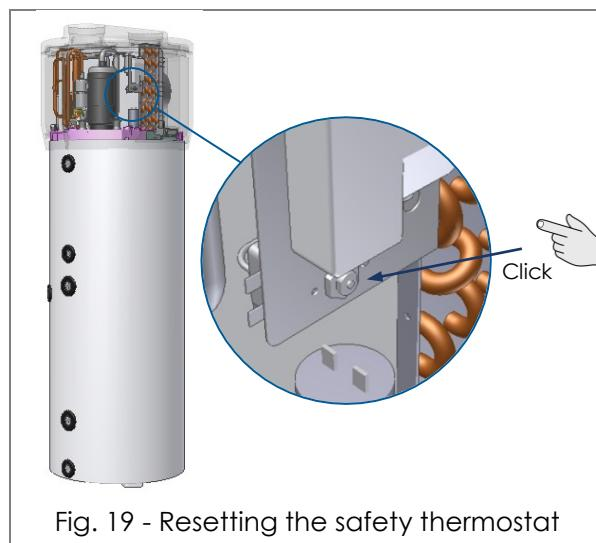

Fig. 19 - Resetting the safety thermostat
- Manually reset the safety thermostat from above (Fig. 19). If the device is tripped, the central pin on the thermostat protrudes by approximately 4 mm.